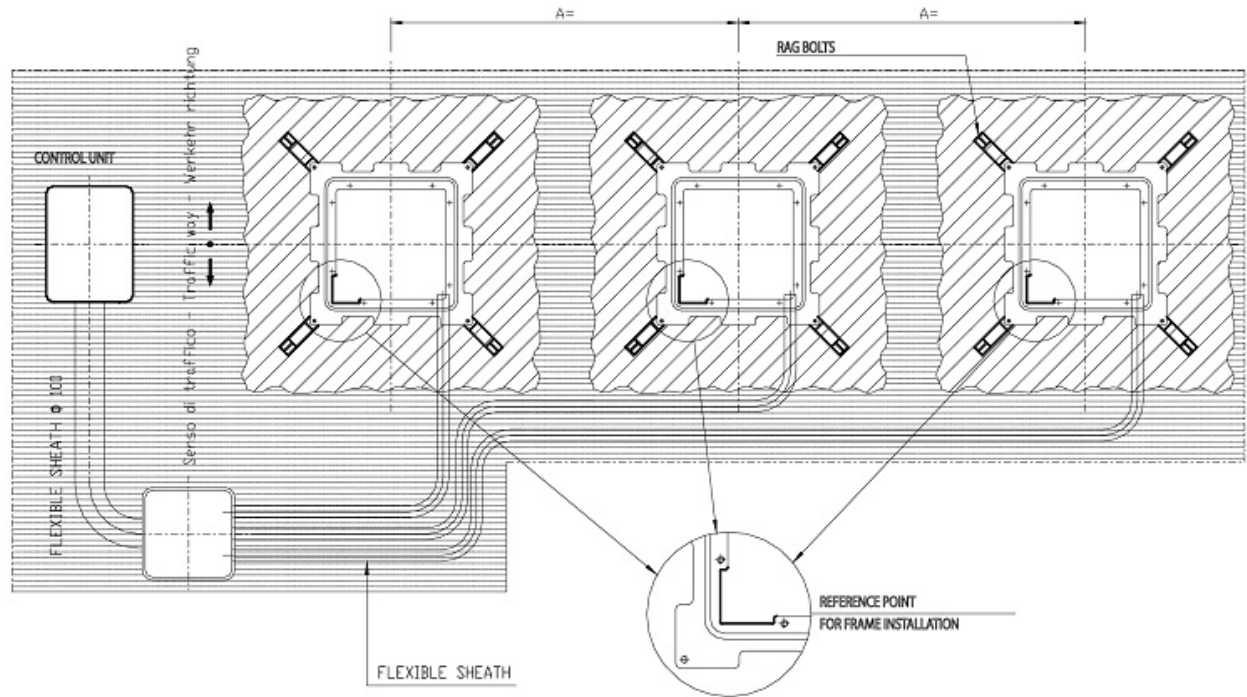

Fig. 5
- 8) Lay the pipes required for connecting the management station to any additional equipment (e.g. 'traffic lights' - inductive loops - card reader etc.) and to any other bollards present, and prepare the electrical and earthing connections (fig. 5).